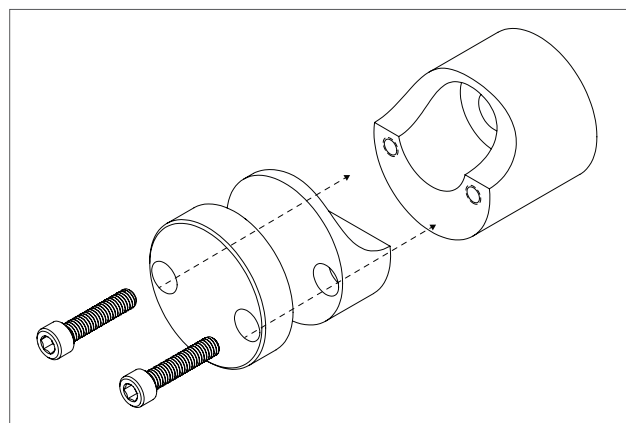

Figure 7
10. Clamp spacer with stop block to track in desired stopping location. If desired stop location is at a pre-existing spacer, remove screws, add stop block and re-insert screws (Figure 7).